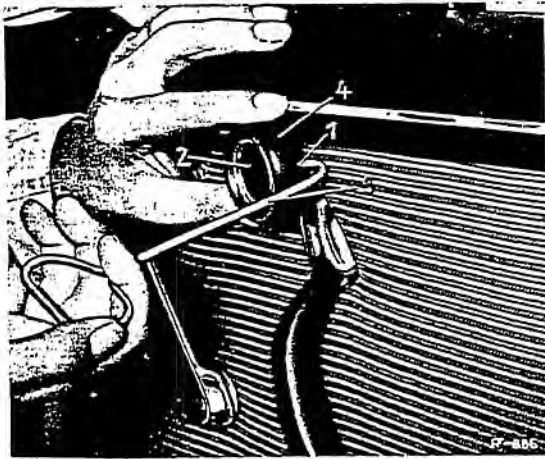

Fig. 72-5/1
1. Insert a wire hook (3) in the bore of the control knob (4) and press off the cap (2) of the control knob (4) toward the front (Fig. 72-5/1).
**Note:** At the point marked (1) at the rear part of the control knob (4) there is a bore for pressing out the control knob cap (2).